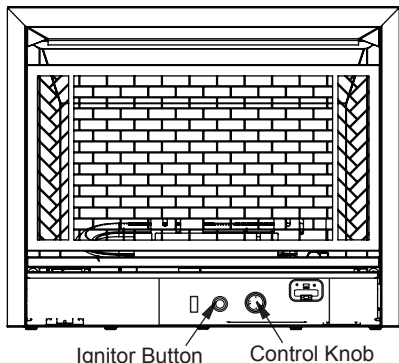

Figure 23 - Control Knob in the OFF Position
4. Wait five (5) minutes to clear out any gas. Then smell for gas around heater and near the floor. If you smell gas, STOP! Follow "B" in the safety information above. If you do not smell gas, go to the next step.
5. Turn control knob counterclockwise  to the PILOT position. Press in control knob for five (5) seconds (see Figure 23).